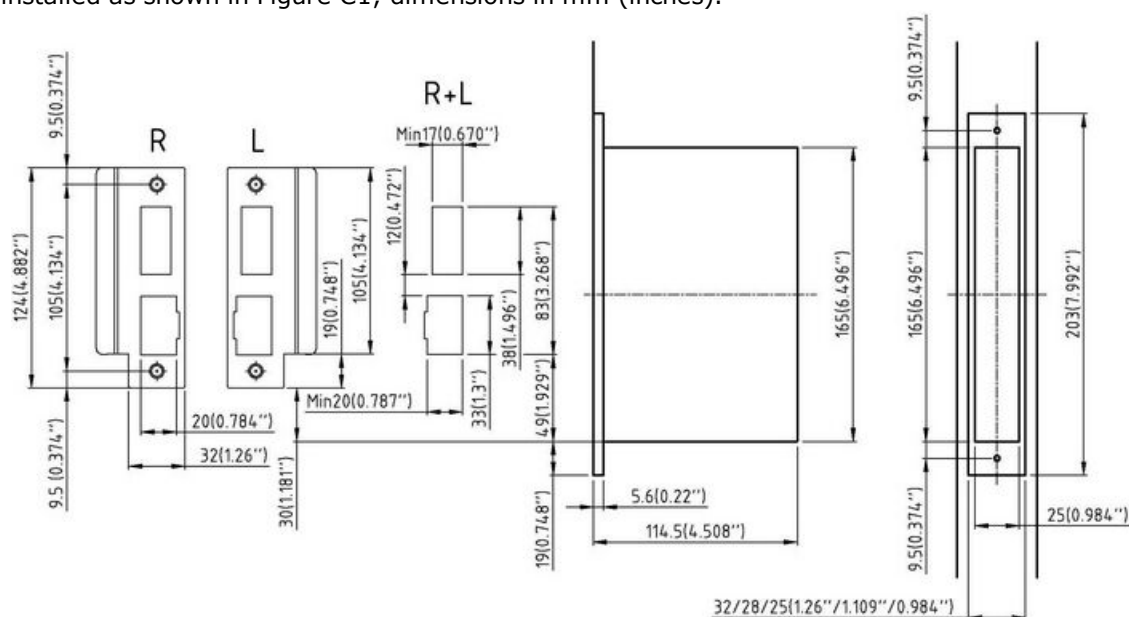

Figure C1: Striker plate and cut-out
When installing or upgrade to ANSI DA ADB lock case, the external striker plate must be installed as shown in Figure C1; dimensions in mm (inches).
2. Place the ADB striker plate in the frame as shown in Figure C1, 49 mm (1 30/32") above the bottom of the lock front (30mm + 19mm, i.e. 3/4" + 1 3/16").